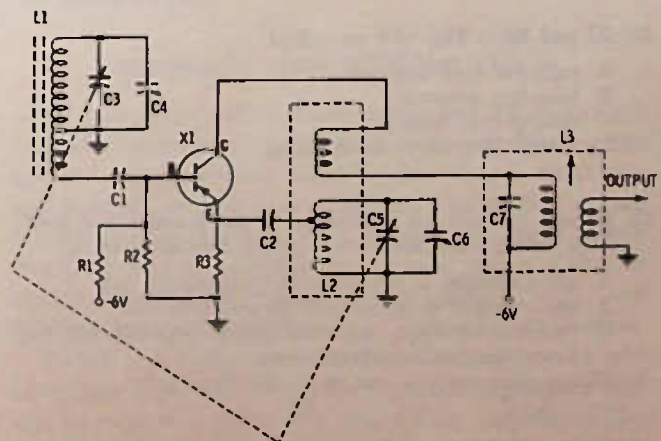

Fig. 10-6. Circuit for Questions 9 through 16.
9. In Fig. 10-6, the trimmer capacitors are
10. In Fig. 10-6, the main purpose of C1 is to
11. In Fig. 10-6, the transistor shown here is
12. In Fig. 10-6, the output of L3 goes directly to
13. In the circuit of Fig. 10-6, the oscillator feedback signal
14. In Fig. 10-6, which is a partial circuit of a broadcast a-m radio, the tuned circuit that will be tuned highest in frequency is
15. Looking at the circuit in Fig. 10-6, about how much voltage should be on the collector of the transistor?
16. R1 and R2 in Fig. 10-6 are called